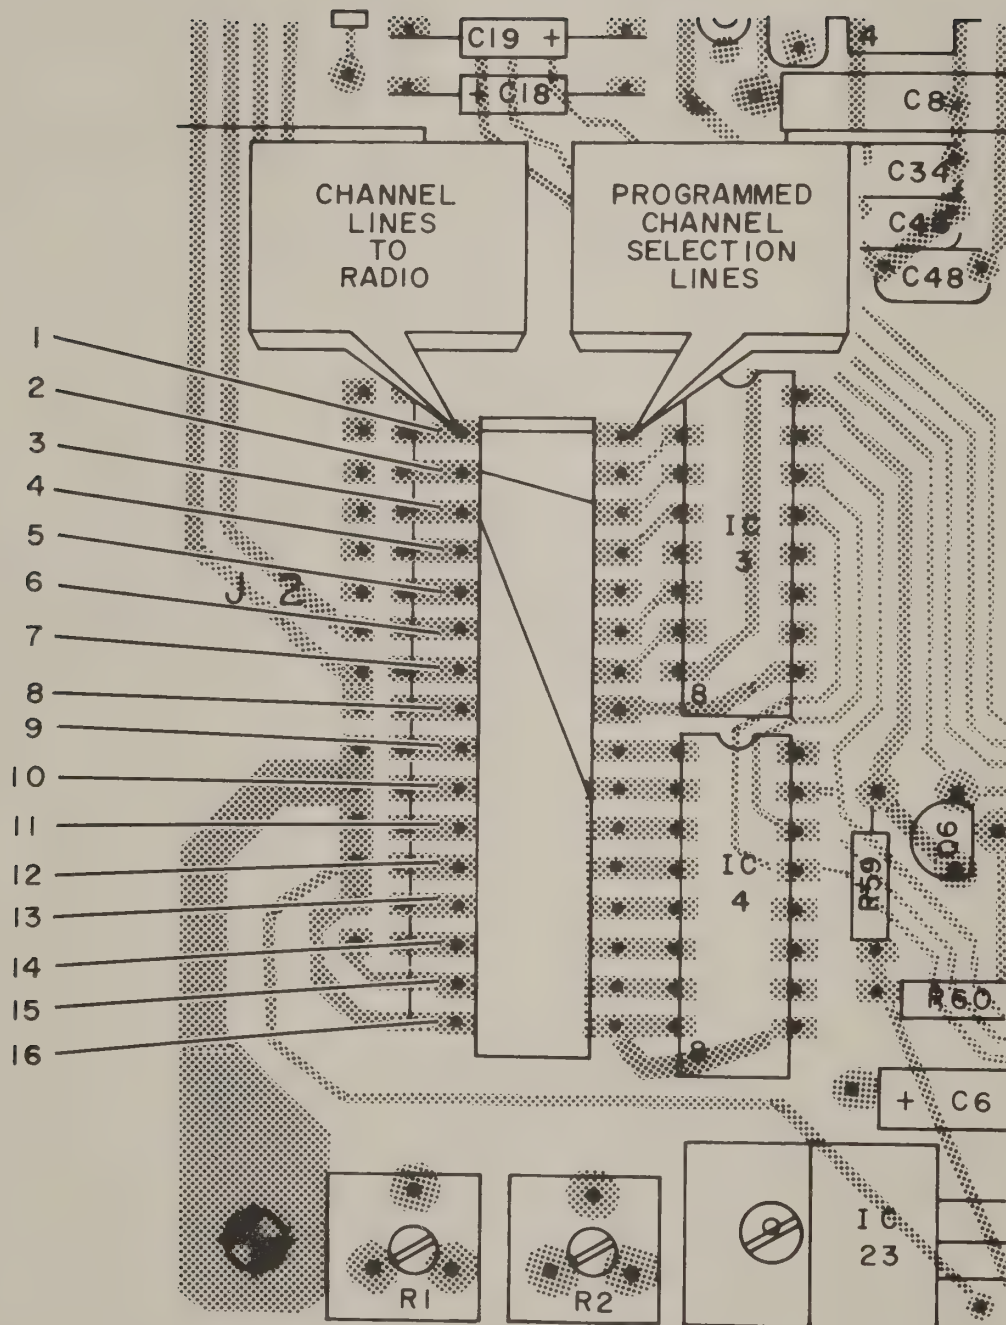

Figure 4-2. Portion of Logic Assembly, 6624-3120, Showing Example of Jumping of Channel Selection Lines to the Radio Channel Lines
crystals in the oscillator sockets. Refer to the Instruction Manual for the Transceiver for the crystal changing procedure. If not enough oscillators are present in the Transceiver, the jumpering of the channel selection wires in the Logic Board must be changed. The jumpers are located adjacent to IC3 and IC4 on the Logic Board (figure 4-2). Proceed as follows:
2. Refer to Table C and solder jumpers in place to match the Transceiver crystals to the channel display of the Control Unit. As an example, in figure 4-2, jumpers which are installed in a Transceiver setup for RCC UHF operation would permit crystals for RCC UHF channels 21, 23, and 30 to be installed in channel crystal positions 1, 2, and 3. These same jumpers would, in a Transceiver setup for VHF Telco operation, allow crystals for VHF Telco channels 3, 7, and 21 to be installed in radio channel crystal positions 1, 2, and 3.